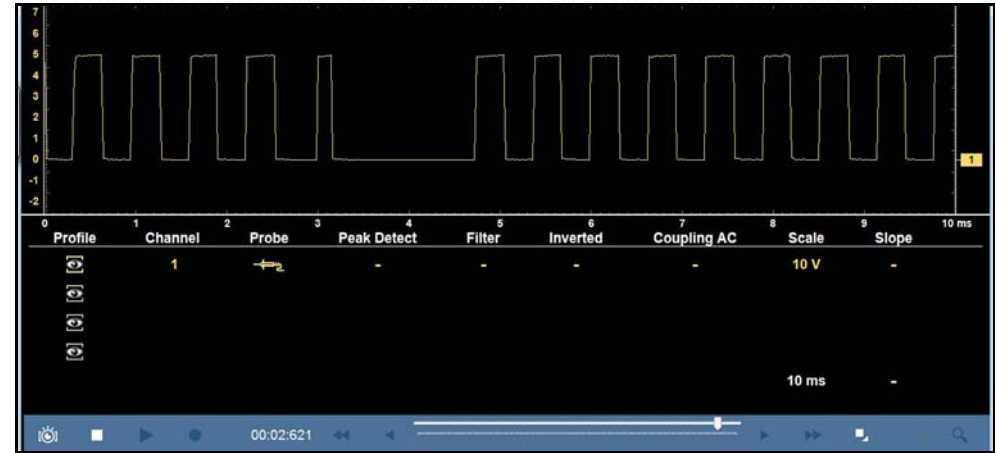

Figure 9-26
- **Normal** —control setting icons are displayed (e.g. Profile, Channel, Probe, Filter, Scale, etc) (*Figure 9-26*)